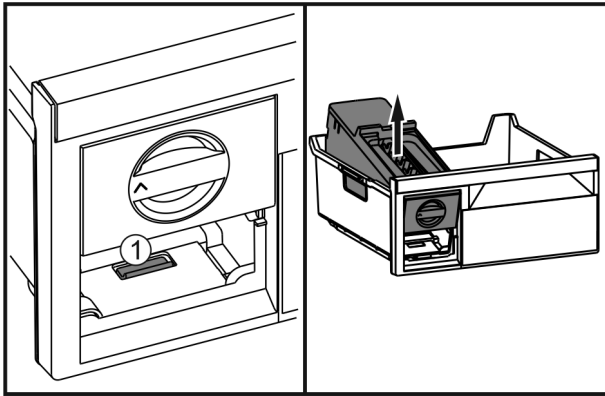

Fig. 63
- ▶ Press the lug Fig. 63 (1), lift up the EasyTwist-Ice at the back and take it out of the freezer drawer.